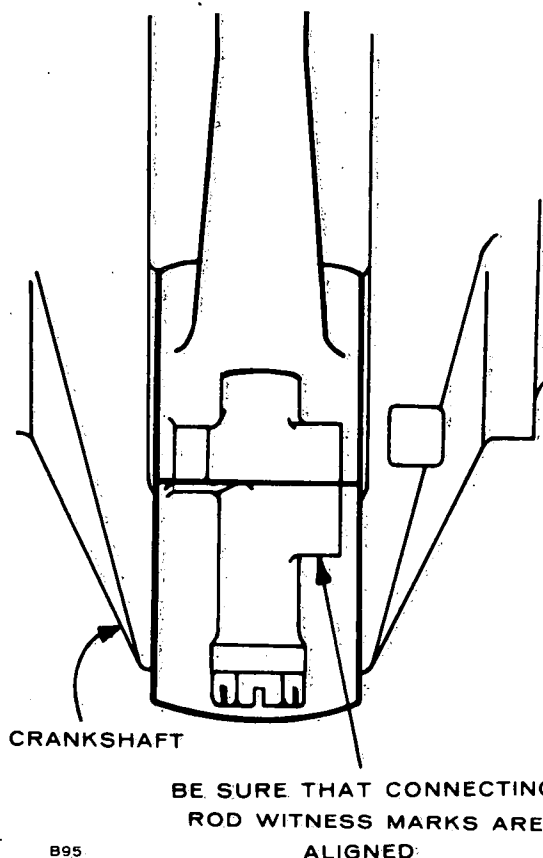

FIGURE 49. CONNECTING ROD CAP
5. Position the connecting rod on the camshaft, oil the journal and install its rod cap with bearing half. When installing the rod cap, position so the raised witness mark on the forging matches the mark on the connecting rod (Figure 49).